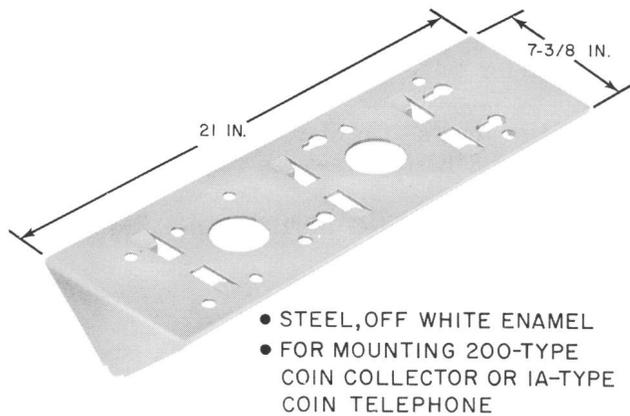

Fig. 2—KS-19340, List 53 Backboard
(1) D-179939 Kit of Parts which includes:
- One KS-19340, List 53 backboard (Fig. 2)
- 3.13** Use KS-19340, List 53 backboard (Fig. 2) four P-40Y060 security studs; and 1/4-20 by 5/8 RHM screws as required.